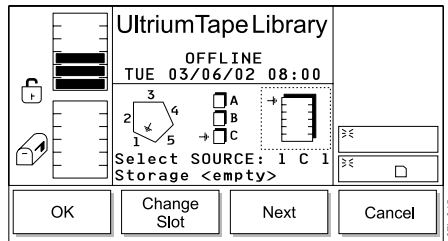

Figure 277. Change Slot Dialog
- b. Press the button below the **Change Magazine** softkey until the arrow in the middle icon points to the magazine that you want. Press the **Next** softkey. The Change Slot Dialog displays (see Figure 277).